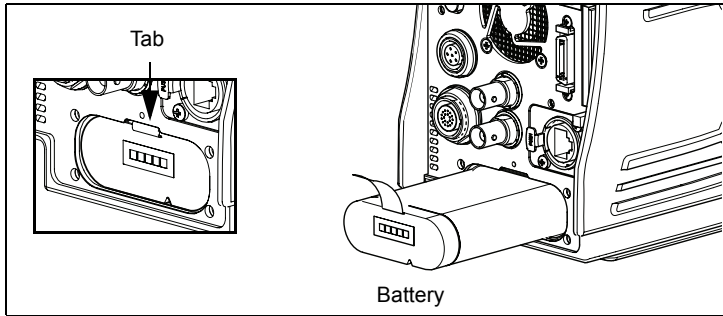

Figure 10.2
3. On reassembly, slide the battery into the battery housing with the tab and battery contacts to the top. Tuck the tab into the slot and ensure the battery is pushed fully home (Figure 10.2 inset).